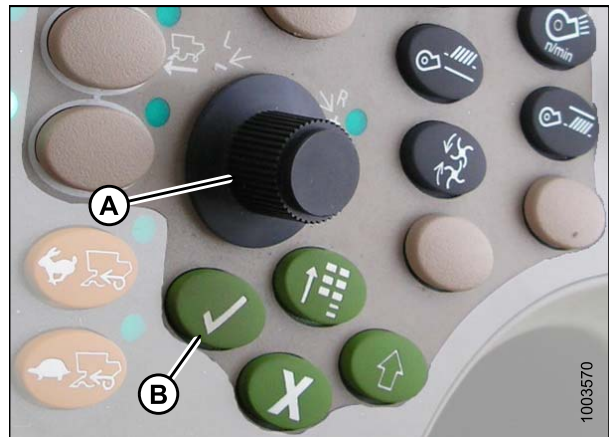

Figure 7.225: John Deere Combine Control Console
7. Select HEADER in box (A) by scrolling down to the box using the scroll knob, and then pressing the check mark button (knob and button are shown in Figure 7.225, page 258).
8. Scroll down to the lower right icon that resembles an arrow in a diamond (B) and press the check mark button to select it.